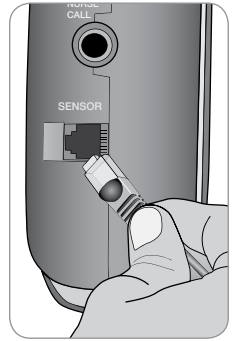

Fig. 26
8. Insert RJ11 plug into jack labeled “sensor” on right side of alarm (Fig. 26). Alarm will activate. Press the HOLD button. You have 30 seconds to transfer the patient to the bed before monitoring begins.